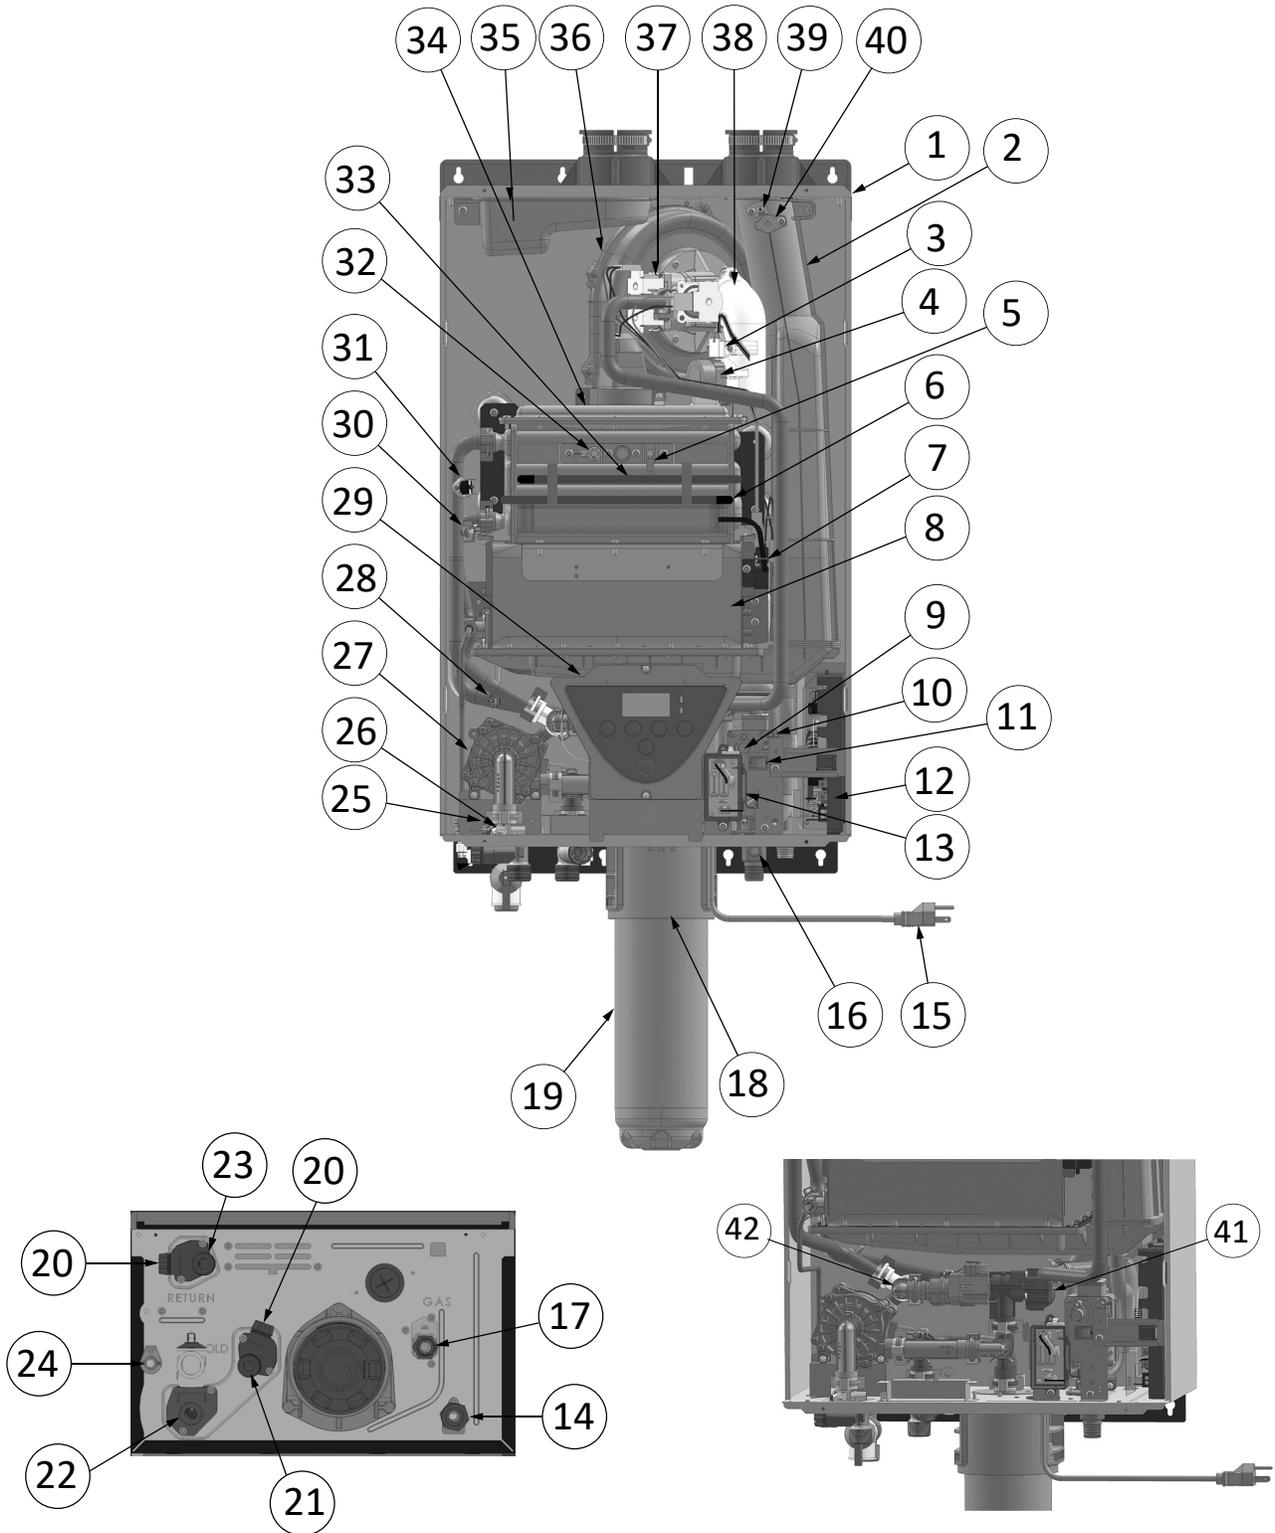

Figure 21: System component locations
6. Press the INFO button to select the mode number. The data will be displayed on the controller. (Figure 21 shows that the outlet water temperature of this heater is 120 degrees.)